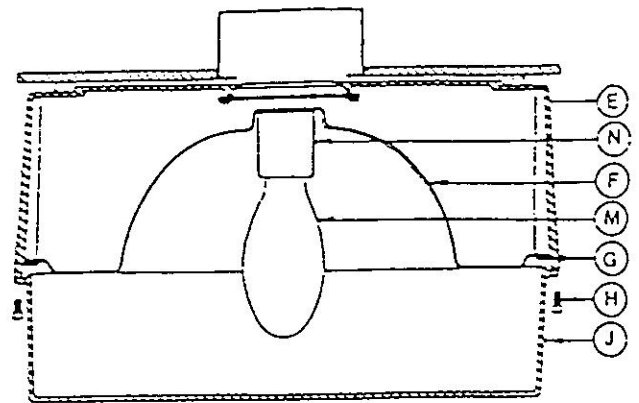

FIGURE 1
1. Remove refractor (J) from housing (E) by removing the (4) corner screws (H). Remove reflector (F) from housing (E) by removing the (2) reflector mounting screws (G). Set reflector, refractor, and mounting screws aside. See Figure 1.
5. Replace reflector (F). Tighten the (2) screws (G). See Figure 1.
6. Install the lamp (M) to socket (N). See Figure 1.
7. Replace refractor (J). Tighten the (4) corner screws (H). See Figure 1.
8. Replace reflector (F). Tighten the (2) screws (G). See Figure 1.
9. Install the lamp (M) to socket (N). See Figure 1.
10. Replace refractor (J). Tighten the (4) corner screws (H). See Figure 1.